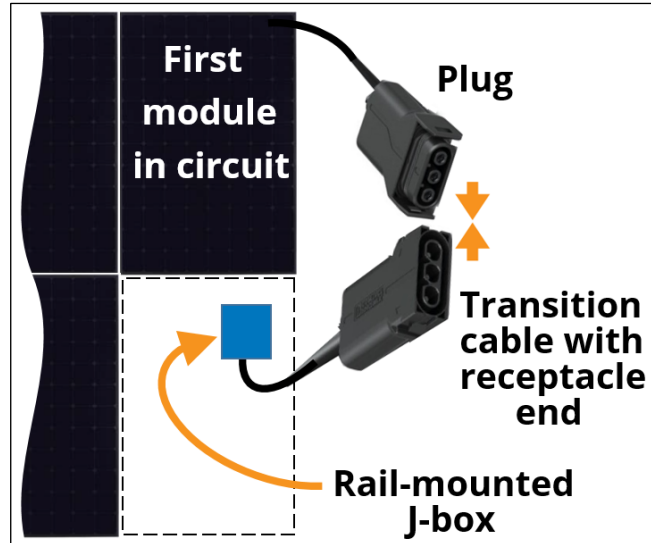

Fig. 25
18. Connect the plug or receptacle on the transition cable to the appropriate AC cable end on the first module in the circuit (Fig. 25; *example only*).